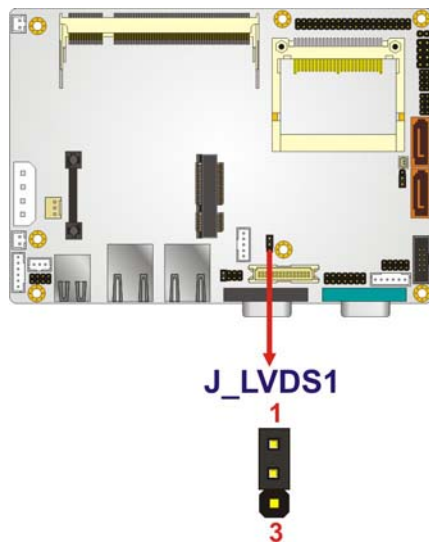

Figure 5-9: LVDS Voltage Selection Jumper Pinout Locations
- Jumper Location:** See **Figure 5-9**
The LVDS Voltage Selection jumper location. is shown in **Figure 5-9**.